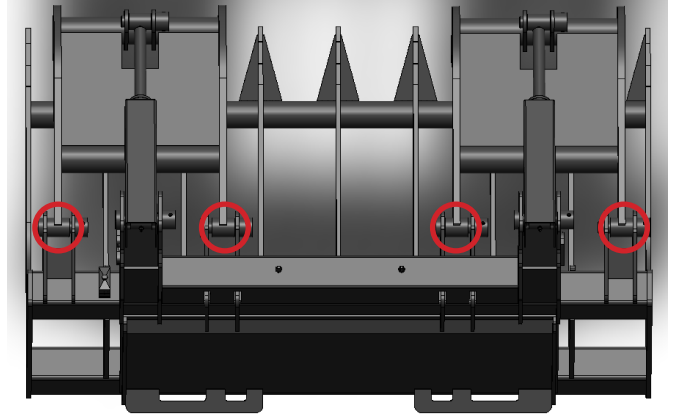

Figure 1
The Light Duty Root Grapple has four (4) grease points. These points are circled in Figure 1.